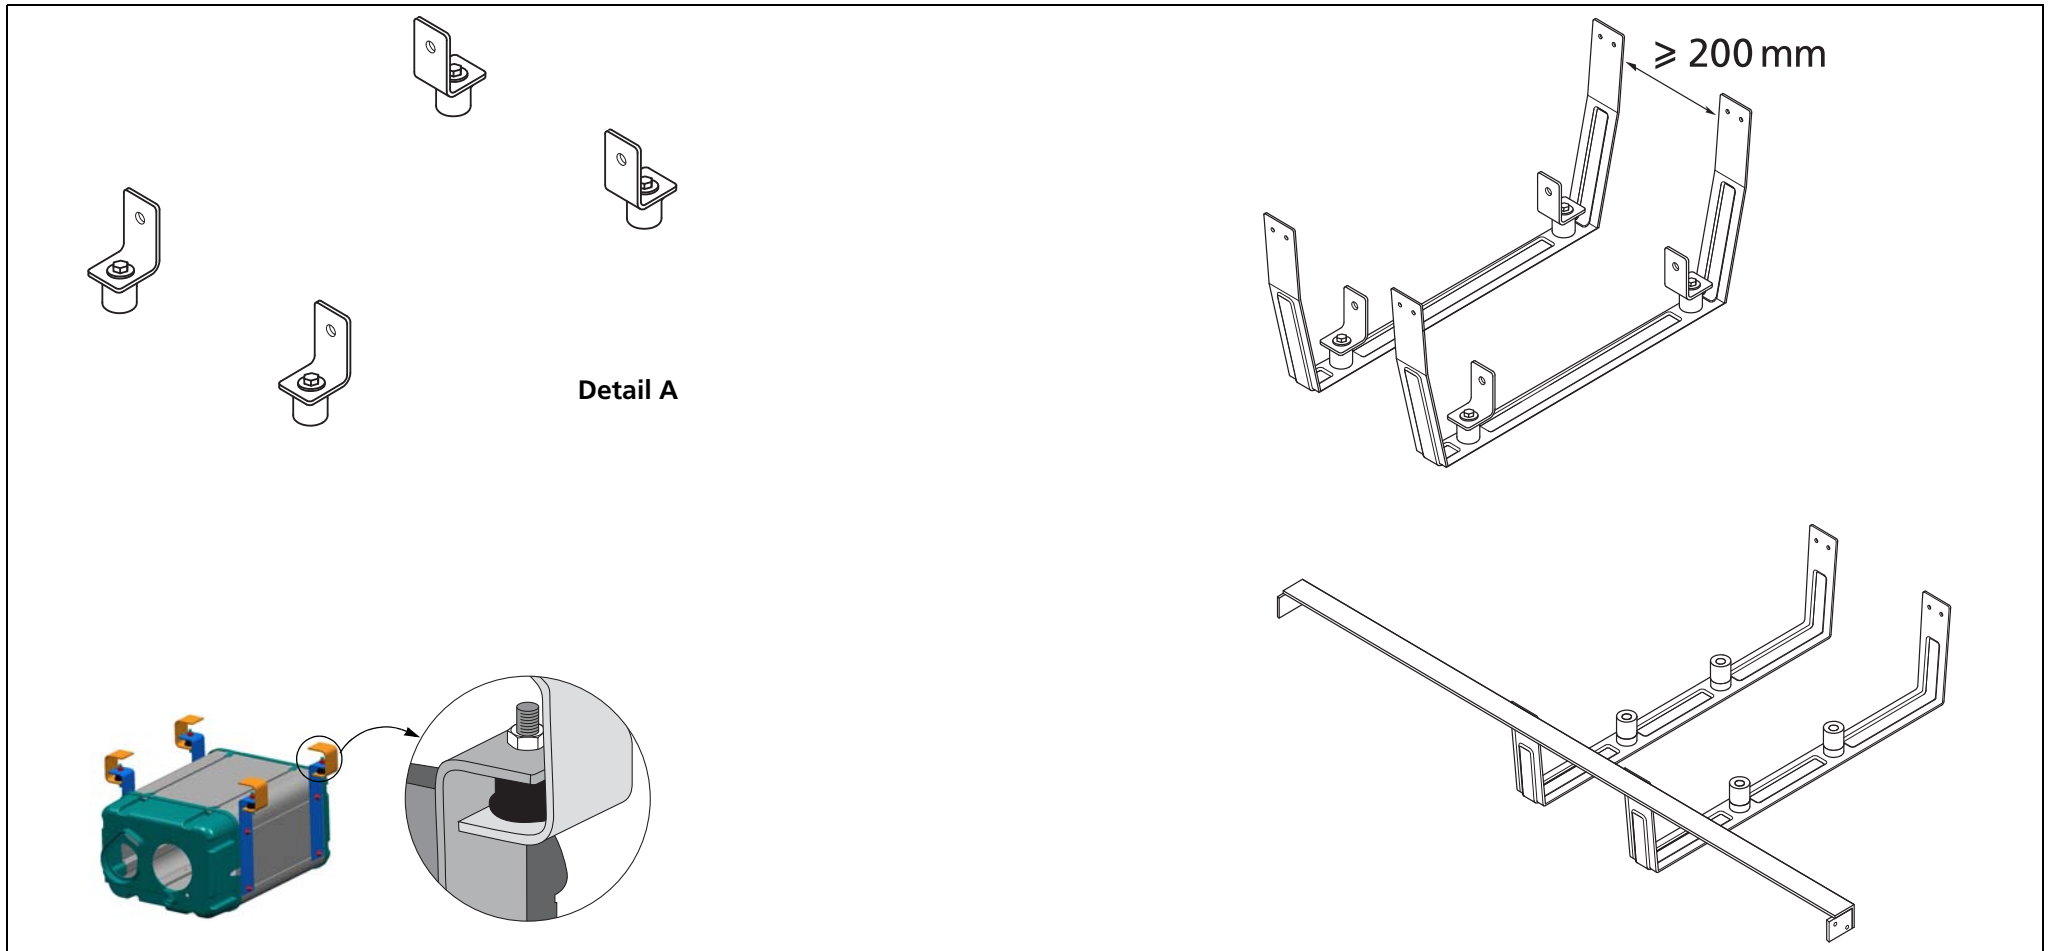

Fig. 10: Fixation brackets and vibration dampers (Webasto examples). Detail A = Basic application.
- The brackets must be spaced at least 200 mm apart. See Fig. 10.
A basic application possibility for individually fastening the Dual Top Evo (see figure 10, Detail A) is included in the delivery scope.